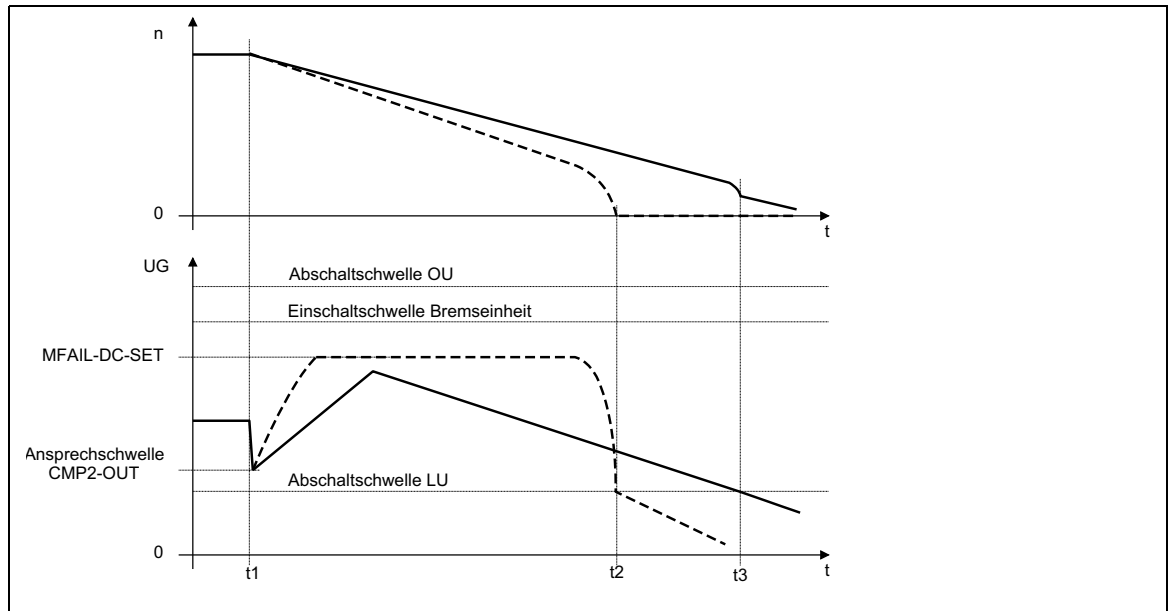

Fig. 3-104
3. Increase of the deceleration time or reduction of the brake torque (see Fig. 3-104) is only possible with restrictions: